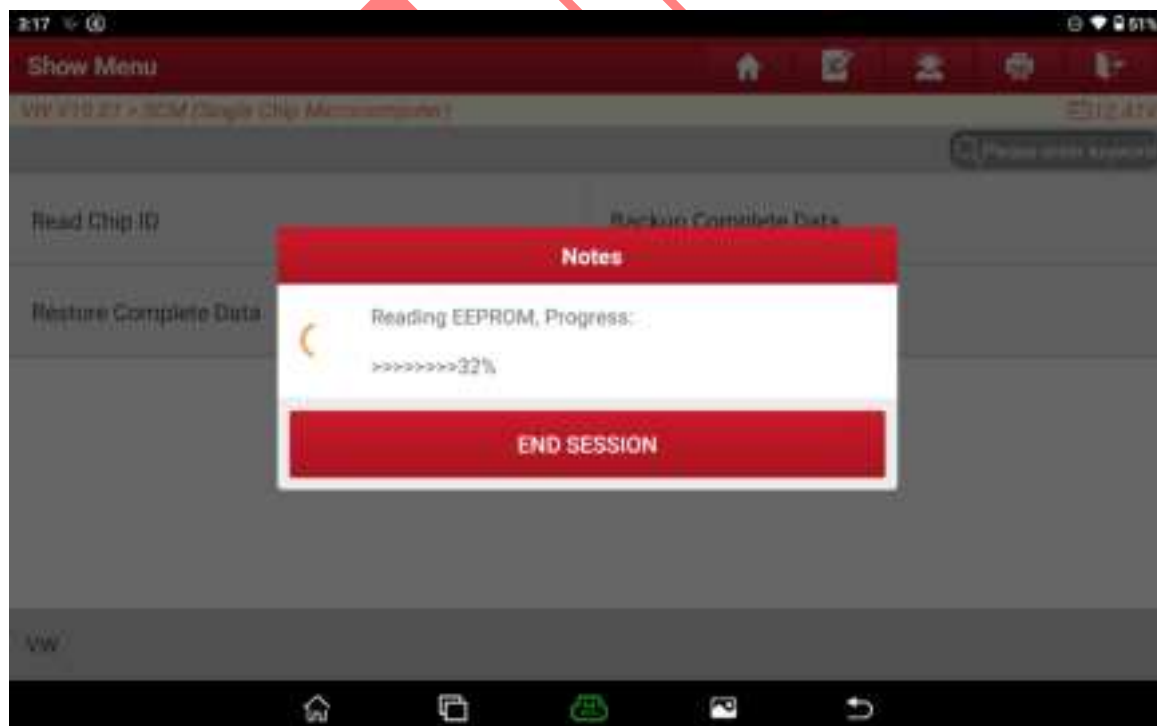

Figure 16
15. It will read FLASH and EEPROM data in turn, please wait, as shown in Figure 16.
24. The original car key is successfully read. Put in the blank key that needs to be matched and select OK, as shown in Figure 16.